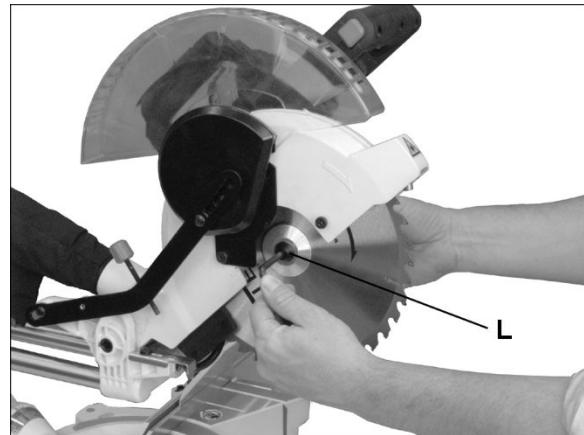

Figure 6-4
5. Allow cover plate and guard to fall backward, to expose arbor bolt (L, Figure 6-4).